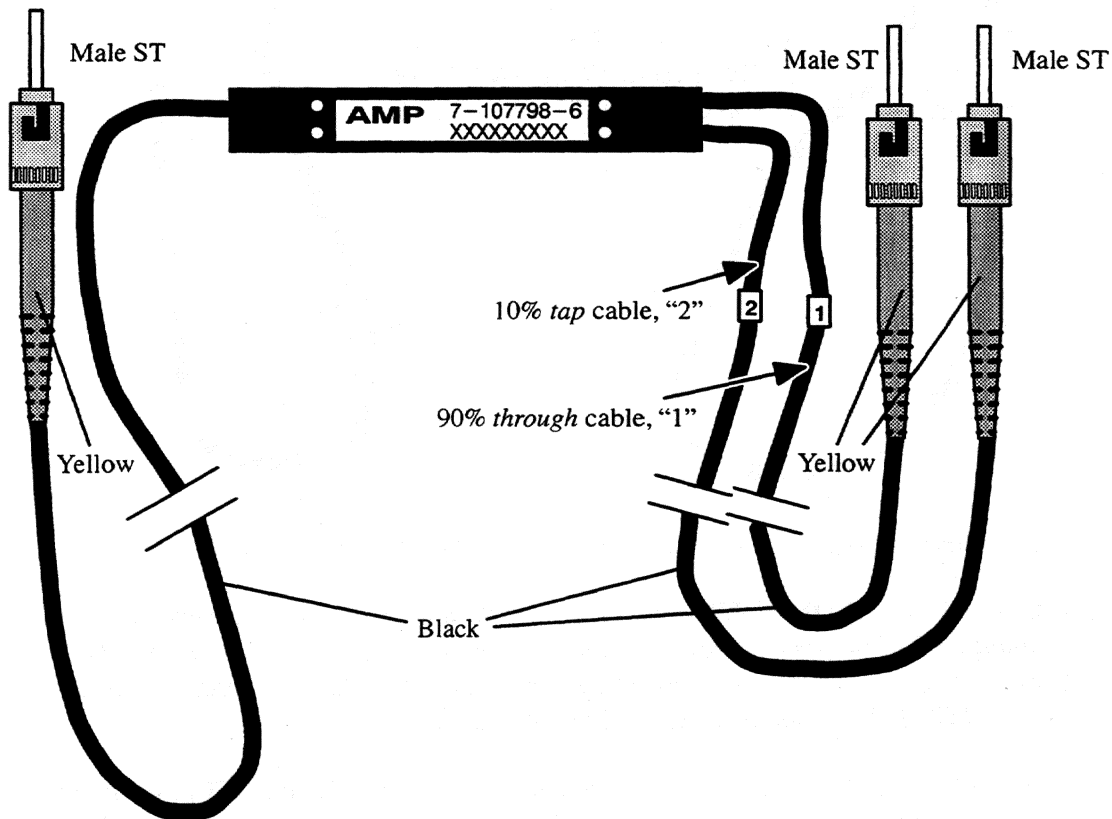

Figure 6-7 Single-Mode Fiber Splitter (Black Body, Black Cable, Yellow Connector), Male ST to 2 Male STs.
2. *Single-Mode Fiber Optic Splitter Cable.* The single-mode fiber splitter cable has a black body with a black cable and yellow connectors, one male ST to two male STs. The cable shown in Figure 6-7 is used in emulation mode and is equivalent to AMP's cable labeled 7-107798-6. (Referred to as "W" in cable diagrams beginning with Figure 6-21.)